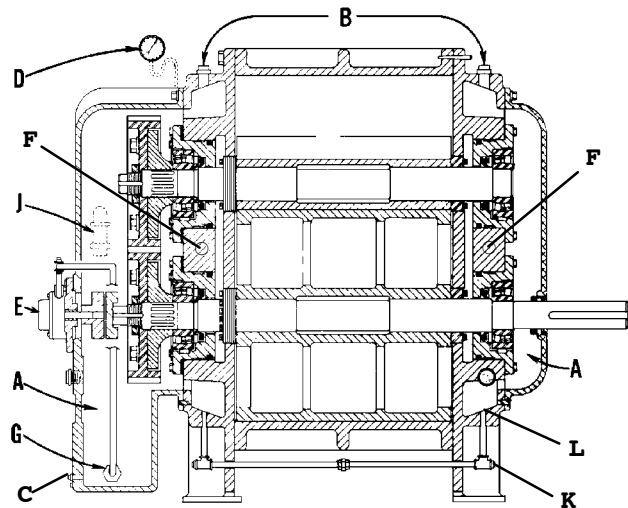

FIGURE 5 - LUBRICATION LOCATION
Remove the vented fill (oil breather) caps (B) in FIGURE 5. Do not remove any pipe plugs on top of the headplates. Fill sumps through the breather cap standpipes. When filling housing with oil, stop filling as soon as the oil appears in the sight glass and allow a few minutes for the level to stabilize. Once oil level has stabilized, add or drain as necessary to adjust the oil level to the midpoint of the sight glass. Be sure fill caps are secured in place once proper oil level is obtained.
Force Feed Lubrication: After one minute of operation, there should be a register of pressure in the gauge (D) FIGURE 5, page 6. IF there is none, prime the oil pump (E) FIGURE 5, page 6.
Force Feed Lubrication: Oil should be drained at the drive headplate (K) and gear sump (C) in FIGURE 5, page 6. The mesh-type strainer (G) FIGURE 5, located in the sump, should be cleaned each time the oil is changed. There are two perforated brass screens located at the oil line connection to the headplates (F) FIGURE 5. These should be removed and cleaned or replaced as necessary. Oil pressure should be in the range of 10 to 15 psi.
Oil pressure is controlled by the relief valve (J), FIGURE 5, page 6, in the bypass line from the pump to the oil sump. If it is necessary to change the pressure adjustment, remove lower cap and gasket from the relief valve. Loosen the locking nut and turn the adjusting screw clockwise to increase, and counter-clockwise to decrease the oil pressure. Tighten locknut and replace gasket and cap. Mount the oil pressure gauge (D), FIGURE 5, on a vibration free panel to prevent gauge damage and inaccurate reading.
Splash lubrication: Oil should be drained at the Drive Headplate (L) and Gear Sump (C) in FIGURE 5, page 6.